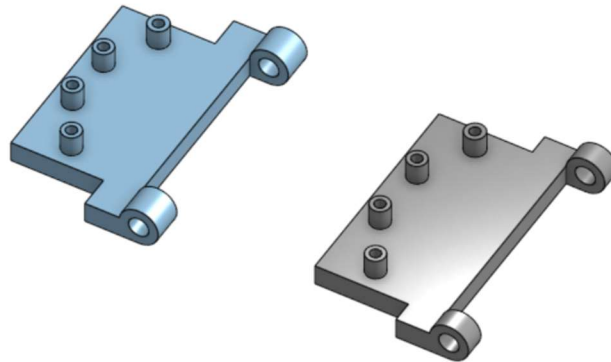

Figure 14 Preset Plates
- 3) Attach the plates to the jig body. The bushings should face the center of the body as shown in figure 14 and the holes of the body should align with the hole in the knuckle of the preset.